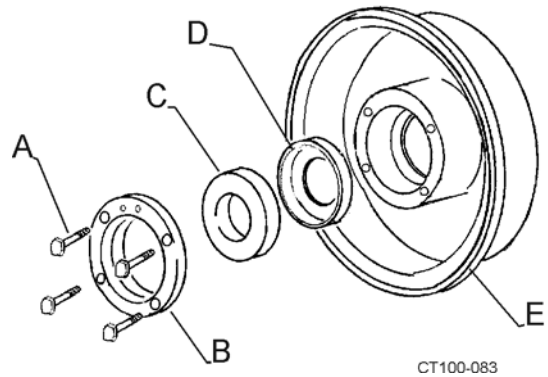

**Figure 6 - Replace Rotary Seal if Less Than Minimum**
**NOTE:** Replace the rotary seal when the seal face extends less than 1/32 inch (1mm) from the body (Figure 6).